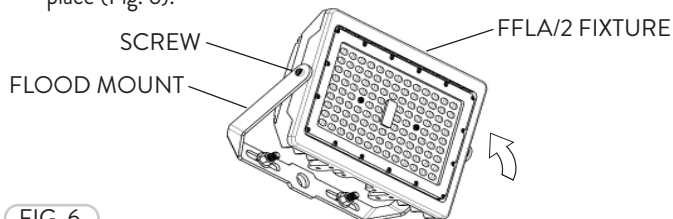

FIG. 6
- 4 The Flood Mount can be rotated. Loosen the Cap Head Screws (2) and adjust the tilt angle of the FFLA/2 fixture to point towards the desired location. Tighten the Screws to hold the FFLA/2 fixture in place (Fig. 6).